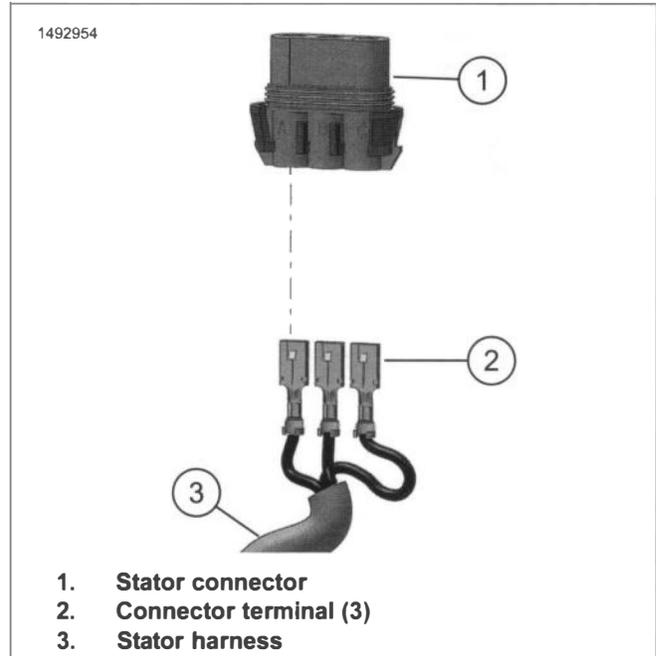

Figure 4-72. Stator Connector
1. See Figure 4-72. Disconnect and remove terminals (2) from stator connector (1).
3. See Figure 4-72. Install stator harness (3) terminals (2) into stator connector (1).